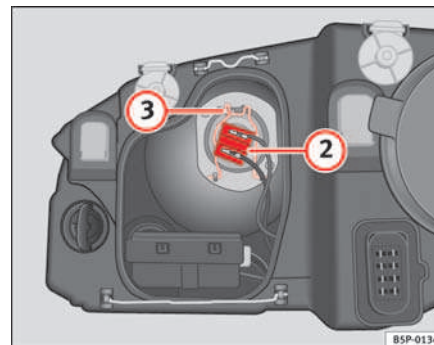

Fig. 176 Dipped head-lights
- Remove the connector ⇒ page 244, fig. 176 ② from the lamp.
- Disengage the retainer spring ⇒ page 244, fig. 176 ③ pressing inwards and to the right.